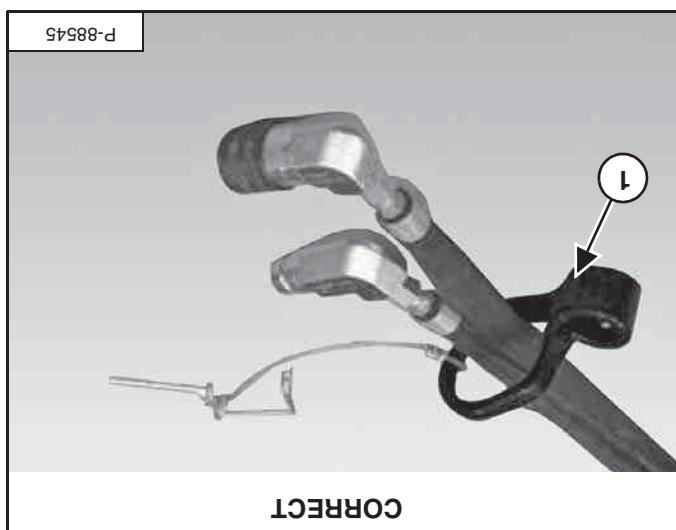

Figure 19
Shown is the removable hose guide (item 1) [Figure 19] correct orientation for a loader.